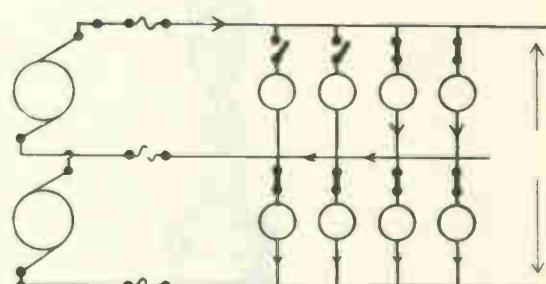

Fig. 4 An unbalanced 3-wire system with an open neutral.
4. Unbalanced load and open neutral - Fig. 4 is an unbalanced three wire system, When the neutral wire breaks, the lightly loaded side will receive too much voltage causing damage or burn out to the appliance due to surge current.